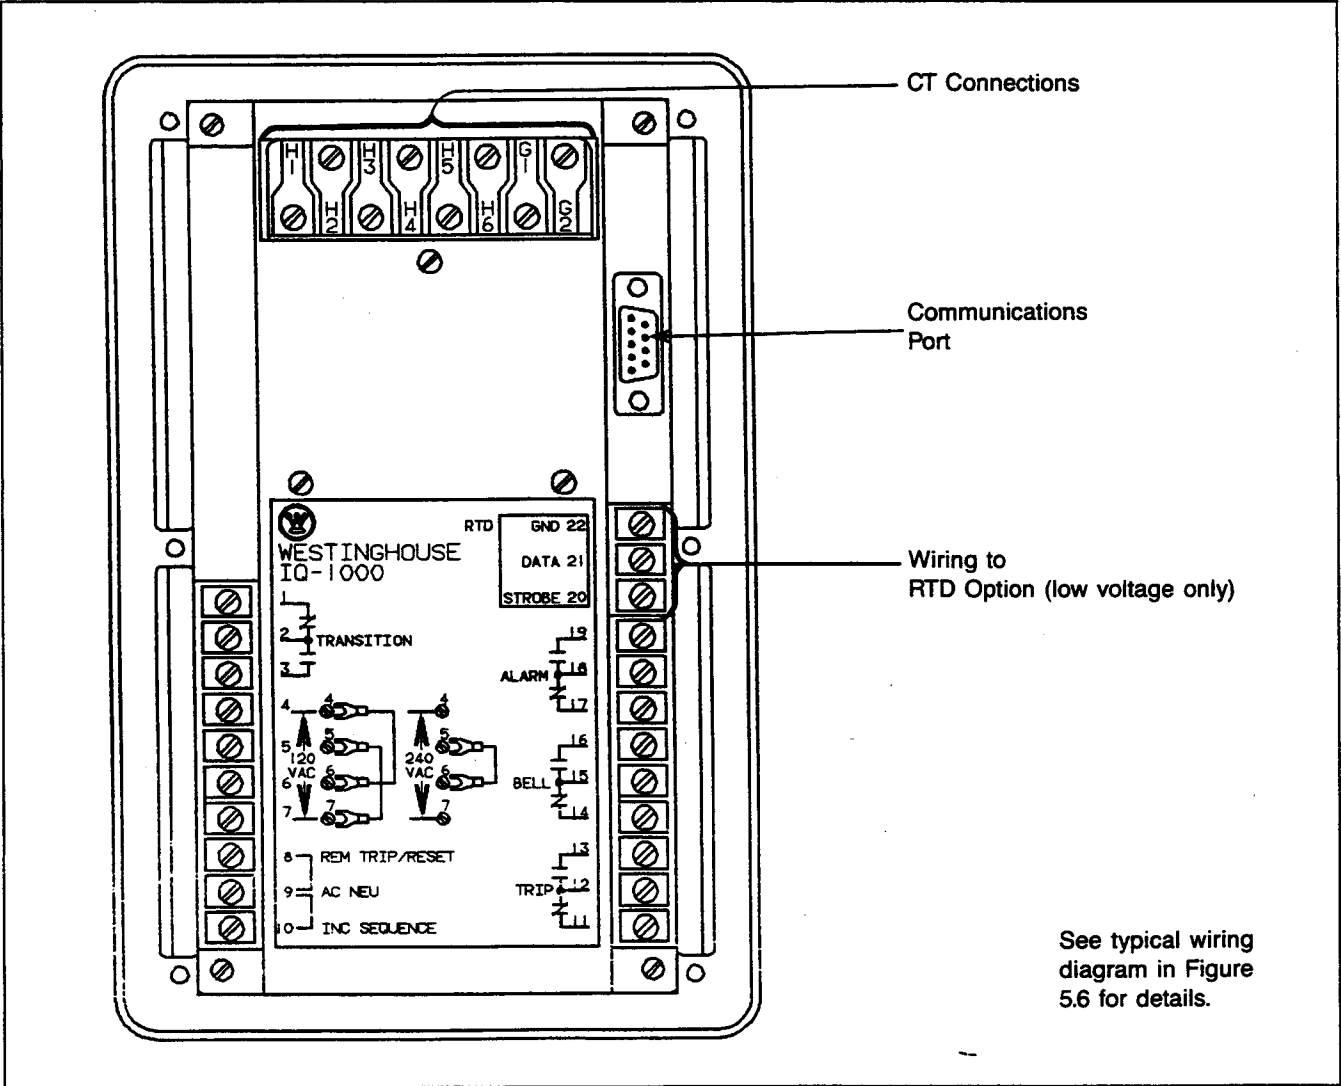

Figure 2.1 — Rear Panel
2.1.2 Rear Access Area — The rear of the IQ-1000 is normally accessible from the rear of the mounting cabinet's door. (See Figure 2.1.) All wiring connections to the unit are made on the back of the IQ-1000, as follows: